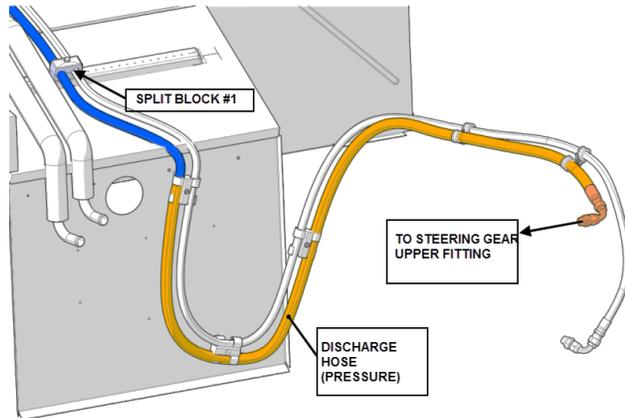

FIGURE 4
- In the spare wheel compartment, it is wrapped in a yellow sheath and is connected to the top of the steering box (fig.4).